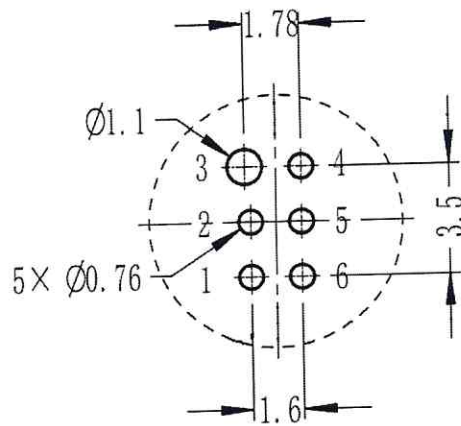

Figure 6 Recommended motherboard PCB layout design dimensions (top view)
- The PCB Layout design and packaging diagram of this optical module product corresponding to the user's motherboard is shown in Figure 6.